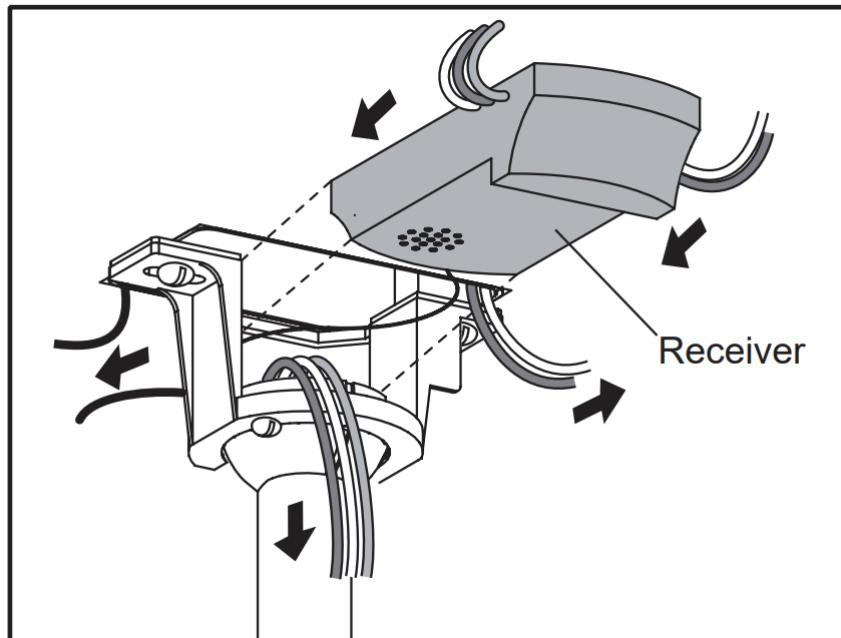

Fig. 12
12. Carefully insert the Remote Receiver above the hanger ball in the remainder spacing in the mounting bracket. Take care not to damage or loosen any of the wiring. (**Fig. 12**)